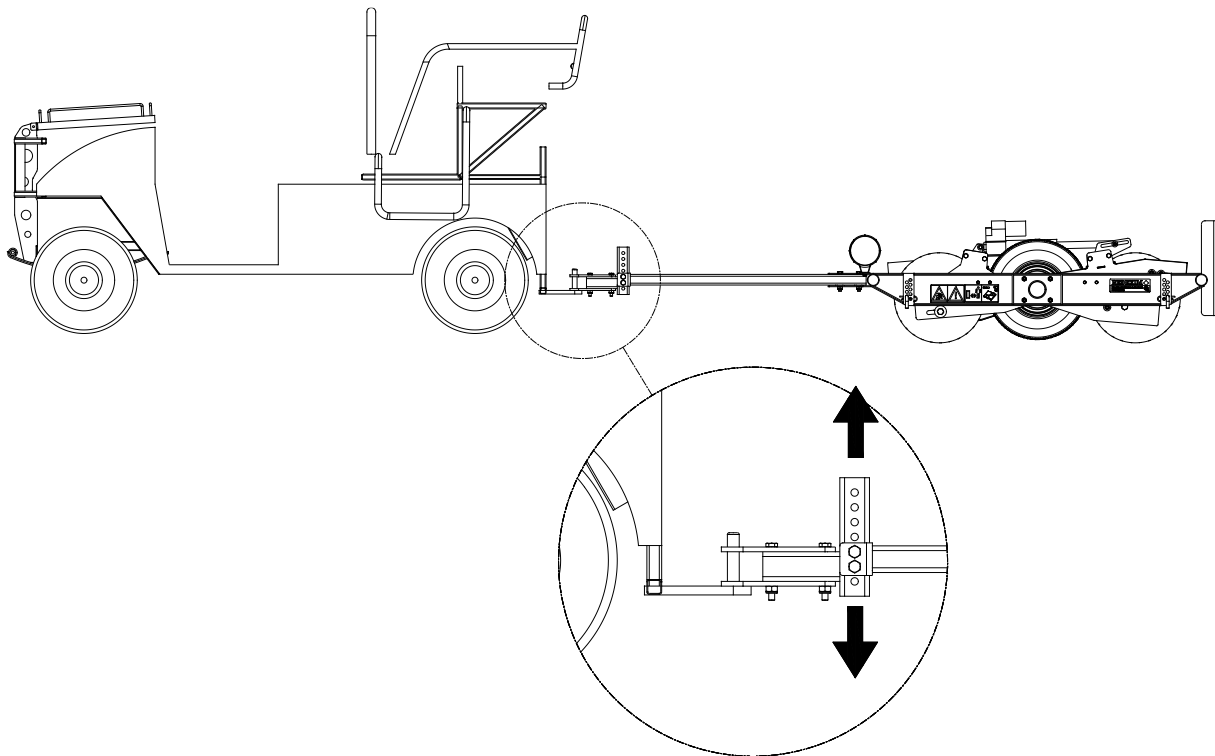

Figure 9
If the towing vehicle has a tow hook, the Speed-Brush can be attached to this vehicle (Figure 9).
3. Subsequently, check whether the Speed-Brush is in a horizontal position. If not, you can adjust this by unscrewing the two bolts and selecting a higher or lower position (Figure 9).